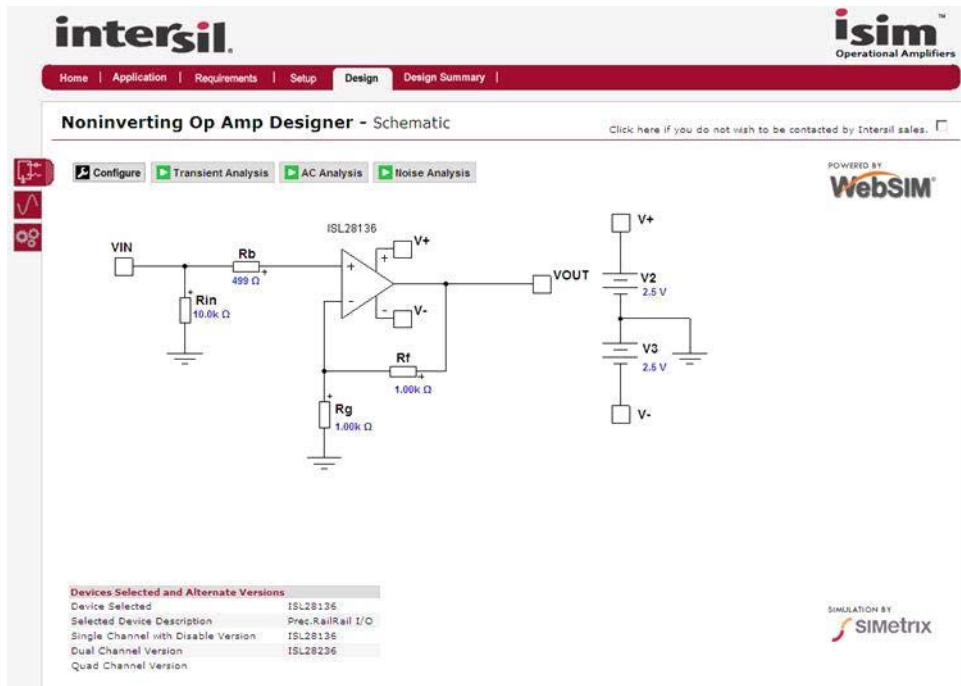

FIGURE 7. DESIGN DELIVERED FROM THE DEFAULT DESIGN FLOW
Hitting the "Design" button at the upper right or lower left will take the desired targets and selected device and execute the design for the feedback and gain resistors as well as the Rb element. Doing that from the default page of Figure 6 gives the design shown in Figure 7.
1. Noise added by the resistors should not dominate the output noise. In the circuit of Figure 7 this includes the Rb element
2. The effect of the total feedback loading is considered. There, the $R_f + R_g$ appear as a load in this design and both a maximum current for the specified maximum output $V_{p,p}$ is checked as well as a minimum loading before the frequency response is impacted through op amp output impedance. For this default design, the ISL28136 is looking for something $\geq 2k\Omega$ load before 2nd order output impedance issues start to impact the small signal frequency response giving increasing deviation from a gain bandwidth calculation. That consideration has in fact set the R_f value in the example of Figure 7.